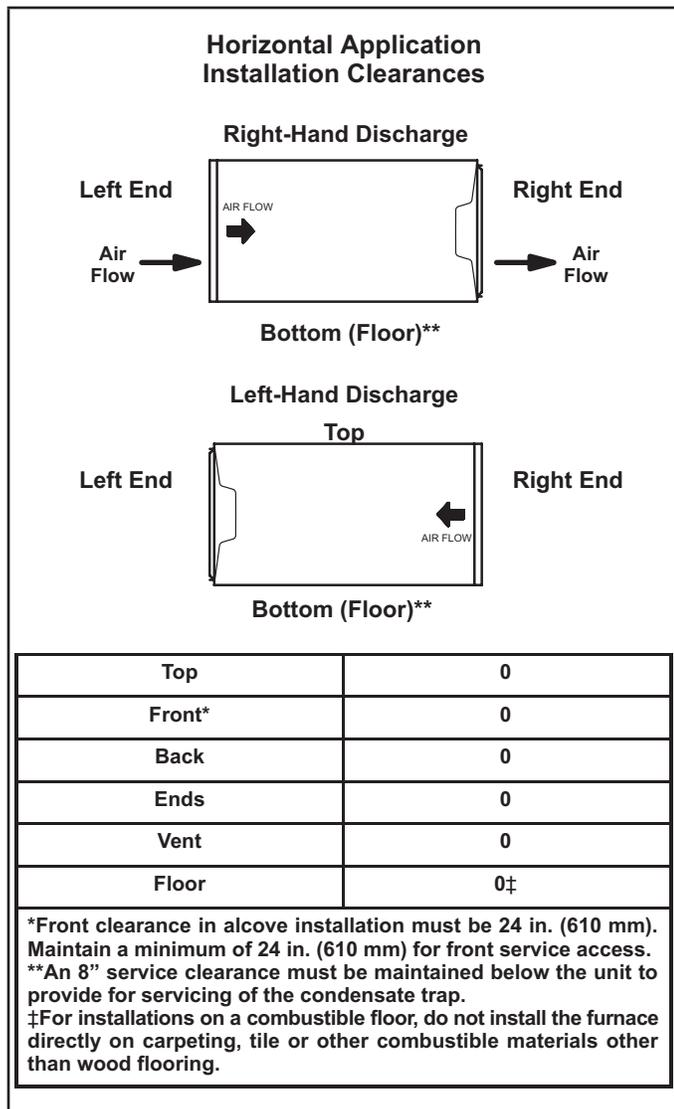

Figure 17
The EL196UHE furnace can be installed in horizontal applications with either right- or left-hand air discharge. Refer to “Figure 17” for clearances in horizontal applications.
- 1 - Select location for unit keeping in mind service and other necessary clearances. See “Figure 17”.